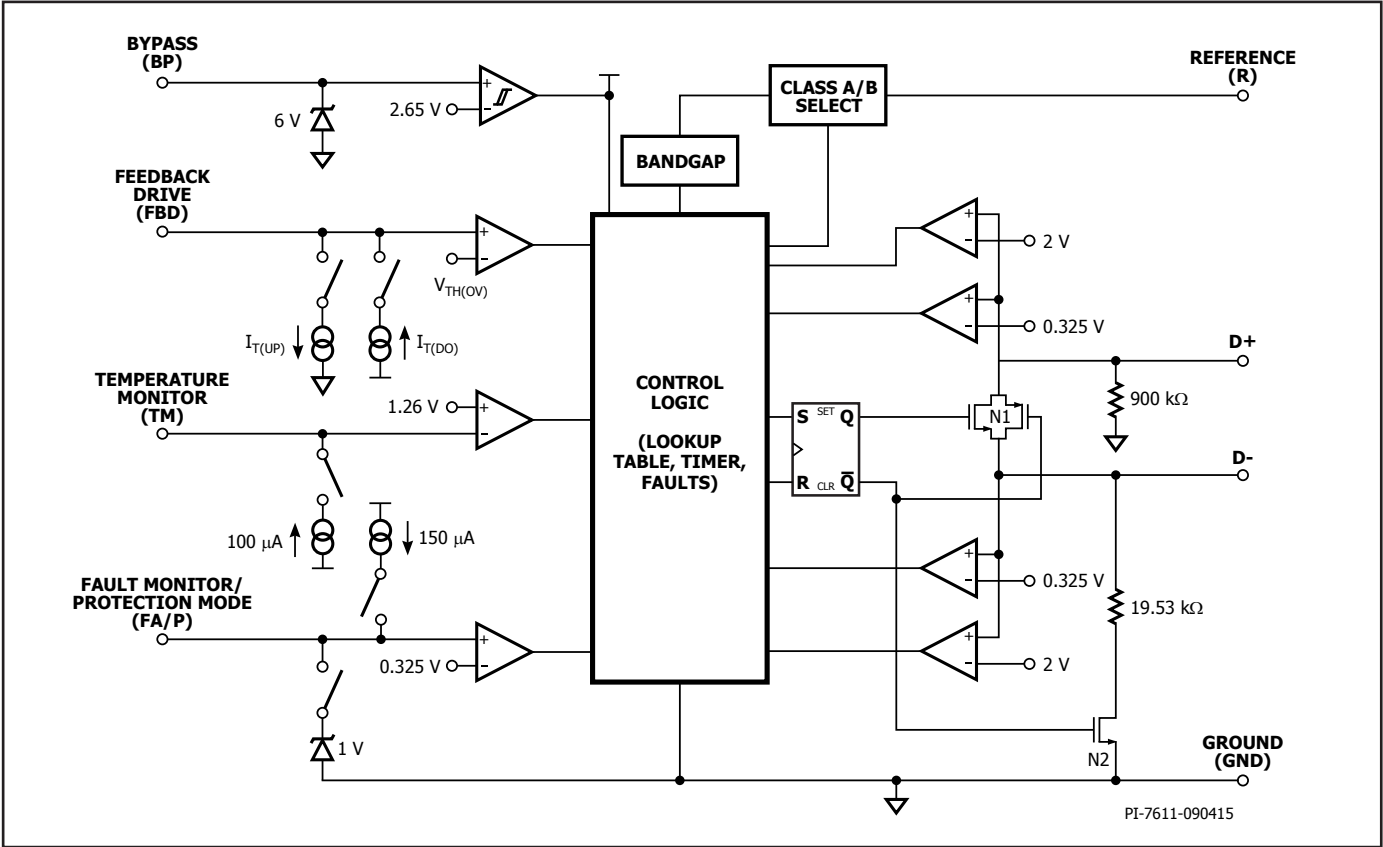

Figure 3. Functional Block Diagram.
At power-up CHY103 turns on switch N1 (see Figure 3) short-circuiting USB data lines D+ and D- for the initial handshake between AC-DC adapter (DCP) and powered device (PD) as described in the USB Battery Charging specification revision 1.2. After the USB BC 1.2 handshake is completed, CHY103 will turn off switch N1 if it detects a Quick Charge 3.0 or Quick Charge 2.0 compliant PD. At this point the Quick Charge 2.0 handshake followed by the Quick Charge 3.0 handshake can take place as described in the Quick Charge 2.0 and Quick Charge 3.0 protocol specification. Upon completion of the Quick Charge 2.0 and Quick Charge 3.0 handshakes, CHY103 will turn on switch N2 (see Figure 3) connecting a $19.53 \text{ k}\Omega$ pull-down resistor to USB data line D-.
When the USB cable is unplugged the voltage level at D+ is pulled down by CHY103's internal resistor (see Figure 3). Once it drops below 0.325 V CHY103 will enter default mode (switch N1 is on, switch N2 is off) and sets the default output voltage of 5 V.